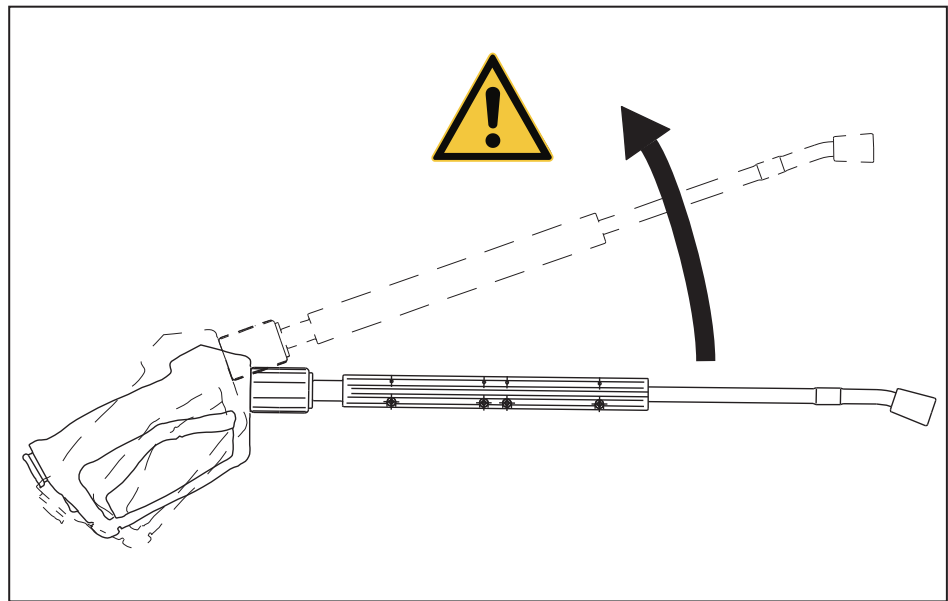

Fig. 6 - 7 Recoil force when switching on the trigger gun
After activation of the trigger gun the emerging water jet exerts a jerky recoil force (see also Fig. 6 - 7).
- ▶ Unlock and pull the trigger lever (3, Fig. 6 - 2 for Series HSC-Electric, resp. 2, Fig. 6 - 3 for Series HSC-Electric FR) of the trigger gun.
- for Series HSC-Electric: set the main switch Start - Stop (1, Fig. 6 - 1) to position 1.
- for Series HSC-Electric FR: press the push-button Start - Stop (1, Fig. 6 - 1). The push-button light is on.